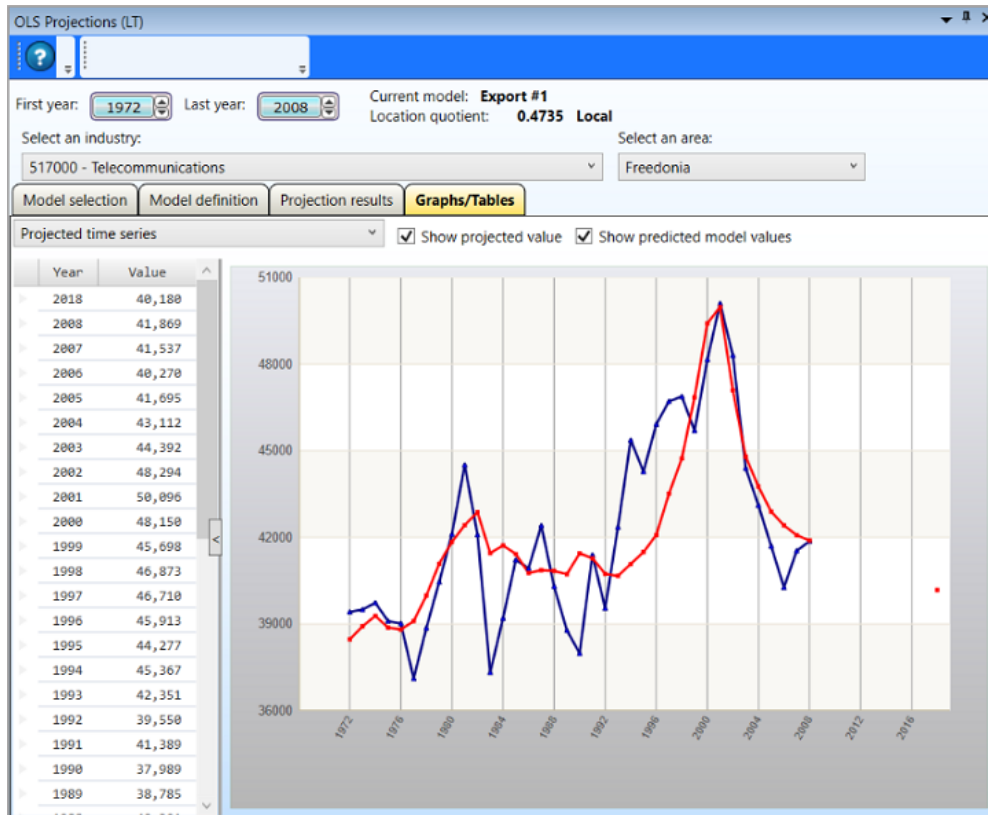

Figure 1: Graphs/Tables tab
- Click **Show projected value** to include the dot indicator (to the right of the graph in Figure 1), which is the projected value based on your selections.